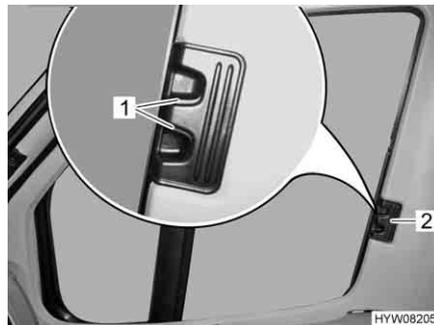

Fig. 16 Roman shade for driver's and passenger's window
- Press the release handles (Fig. 16,1) and hold them down.
- Using the handle (Fig. 16,2), draw the Roman shades for the driver's and passenger's window to the other side of the window and secure them to the magnetic strips.
- Use handle (Fig. 16,2) to push in the Roman shades for the driver's and passenger's window as far as possible.
- Let go of the release handles (Fig. 16,1) and let them engage.